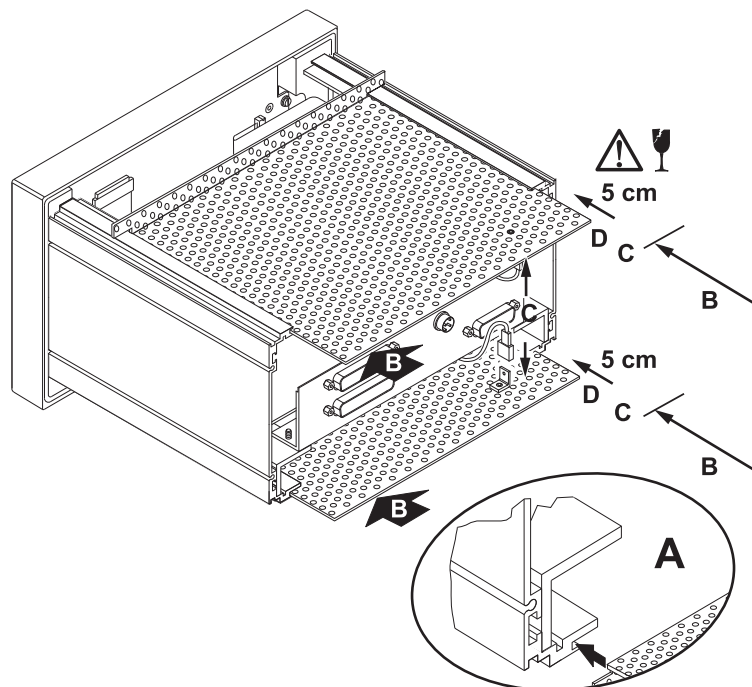

Fig. E 7-22: Fastening of the ground cables and replacing the cover plates
11. Replace the perforated metal cover plates into their guideways (A) and move them back into the frame (B) leaving approx. 5 cm of space left (B). Then carefully fasten the grounding cables to their sockets on the perforated metal cover plates (C). Avoid damaging the grounding cables by canting while replacing the perforated metal cover plates (D). (Fig. E 7-22)